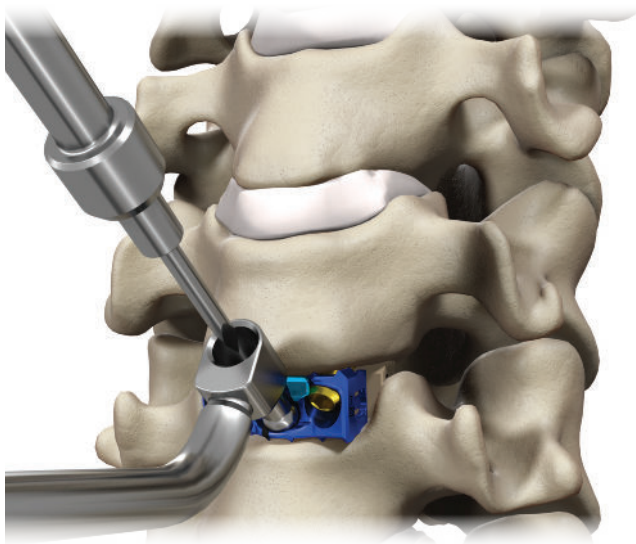

Figure 39
- Prepare the midline screw hole using the fixed or variable drill guide. The fixed or variable drill allows the awl/drill (straight, flexible, or U-joint options) to prepare for the midline screw hole. Seat the guide tip into the medial screw hole. Place the awl/drill through the selected drill guide until the positive stop contacts the guide. The awl/drill will create a pilot hole 6 mm deep. Intra-operative imaging should be used to verify awl/drill position and determine the appropriate length screw (Figure 39).